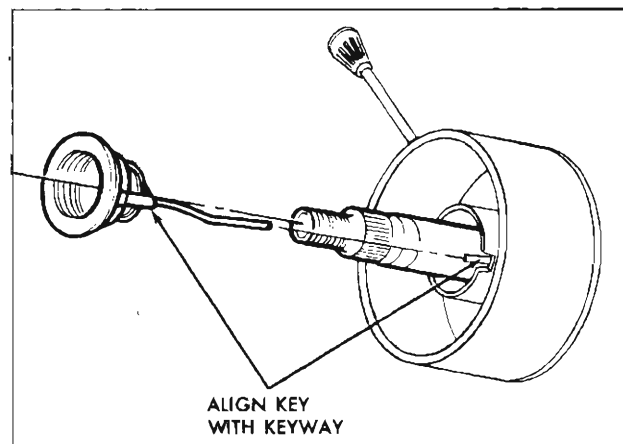

Fig. 12—Horn Bushing Replacement
1. Replace all components in the reverse order of removal. Make certain that the horn bushing, if removed, is aligned and replaced as shown in Figure 12.